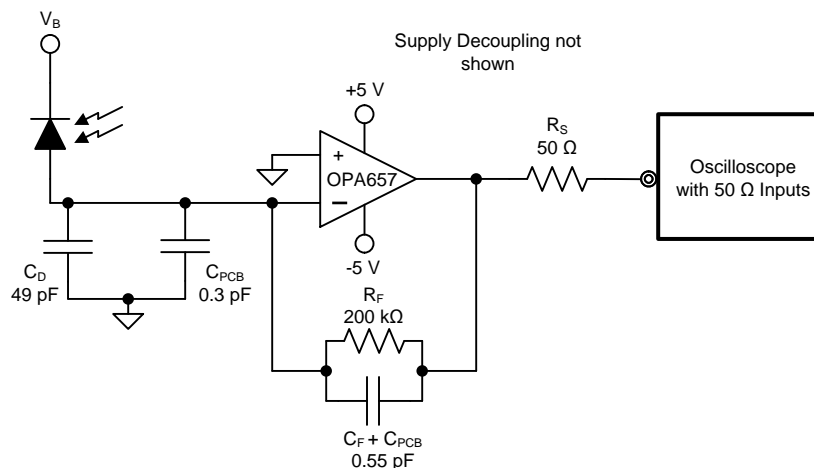

Figure 34. Wideband, High-Sensitivity, Transimpedance Amplifier Diagram
this term only begins to be a significant term versus the input offset voltage for source impedances greater than 750 k $\Omega$ . This would also be the feedback resistor value for transimpedance applications (see Figure 34) where the output DC error due to inverting input bias current is on the order of that contributed by the input offset voltage. In general, except for these extremely high-impedance values, the output DC errors due to the input bias current may be neglected.
As an example, compute the worst-case output DC error for the transimpedance circuit of Figure 34 at 25°C and then the shift over the 0°C to 70°C range given the following assumptions.
Designs that require high bandwidth from a large area detector with relatively high transimpedance gain benefit from the low input voltage noise of the OPA657. This input voltage noise is peaked up over frequency by the diode source capacitance, and can, in many cases, become the limiting factor to input sensitivity. The key elements to the design are the expected diode capacitance ( $C_D$ ) with the reverse bias voltage ( $V_B$ ) applied, the desired transimpedance gain,  $R_F$ , and the GBP for the OPA657 (1600 MHz). Figure 34 shows a transimpedance circuit with the parameters as described in Table 1. With these three variables set (and including the parasitic input capacitance for the OPA657 and the PCB added to  $C_D$ ), the feedback capacitor value ( $C_F$ ) may be set to control the frequency response. To achieve a maximally-flat second-order Butterworth frequency response, the feedback pole should be set to:
Adding the common-mode and differential mode input capacitance (0.7 + 4.5) pF and the trace PCB capacitance of approximately 0.3 pF to the 49-pF diode source capacitance of Figure 34, and targeting a 200-kΩ transimpedance gain using the 1600-MHz GBP for the OPA657 requires a feedback pole set to 3.5 MHz. This requires a total feedback capacitance of 0.2 pF. Such low capacitance values are difficult to achieve due to parasitics from the PCB and the surface mount components.
Equation 8 gives the approximate closed loop bandwidth of the system to be 4.8 MHz. Because the target bandwidth is only 1 MHz, the feedback capacitance can be increased to a more practical value while maintaining the bandwidth requirements of the design. A feedback capacitance of 0.550 pf was chosen. This includes the physical 0.4-pF feedback capacitor in addition to the 0.1-pF parasitic capacitance from the feedback resistor and around 50-fF capacitance from the PCB traces. Removing the ground and power planes from under the surface mount components helps to minimize this parasitic capacitance. The simulated closed loop bandwidth of Figure 34 was 1.7 MHz. The phase margin was close to 82°. This design should result in a system with negligible overshoot to a pulsed input.
3. **Careful selection and placement of external components preserve the high-frequency performance of the OPA657.** Resistors should be a very low reactance type. Surface-mount resistors work best and allow a tighter overall layout. Metal film and carbon composition axially leaded resistors can also provide good high-frequency performance. Again, keep the leads and PCB trace length as short as possible. Never use wirewound-type resistors in a high-frequency application. Because the output pin and inverting input pin are the most sensitive to parasitic capacitance, always position the feedback and series output resistor, if any, as close as possible to the output pin. Other network components, such as noninverting input termination resistors, should also be placed close to the package. Where double-side component mounting is allowed, place the feedback resistor directly under the package on the other side of the board between the output and inverting input pins. Even with a low parasitic capacitance shunting the external resistors, excessively high resistor values can create significant time constants that can degrade performance. Good axial metal film or surface-mount resistors have approximately  $0.2\ \text{pF}$  in shunt with the resistor. For resistor values greater than  $1.5\ \text{k}\Omega$ , this parasitic capacitance can add a pole and/or zero below  $500\ \text{MHz}$  that can effect circuit operation. Keep resistor values as low as possible consistent with load driving considerations. It has been suggested here that a good starting point for design would be to keep  $R_F \parallel R_G < 150\ \Omega$  for voltage amplifier applications. Doing this automatically keeps the resistor noise terms low, and minimizes the effect of the parasitic capacitance. Transimpedance applications (see Figure 34) can use whatever feedback resistor is required by the application as long as the feedback-compensation capacitor is set considering all parasitic capacitance terms on the inverting node.